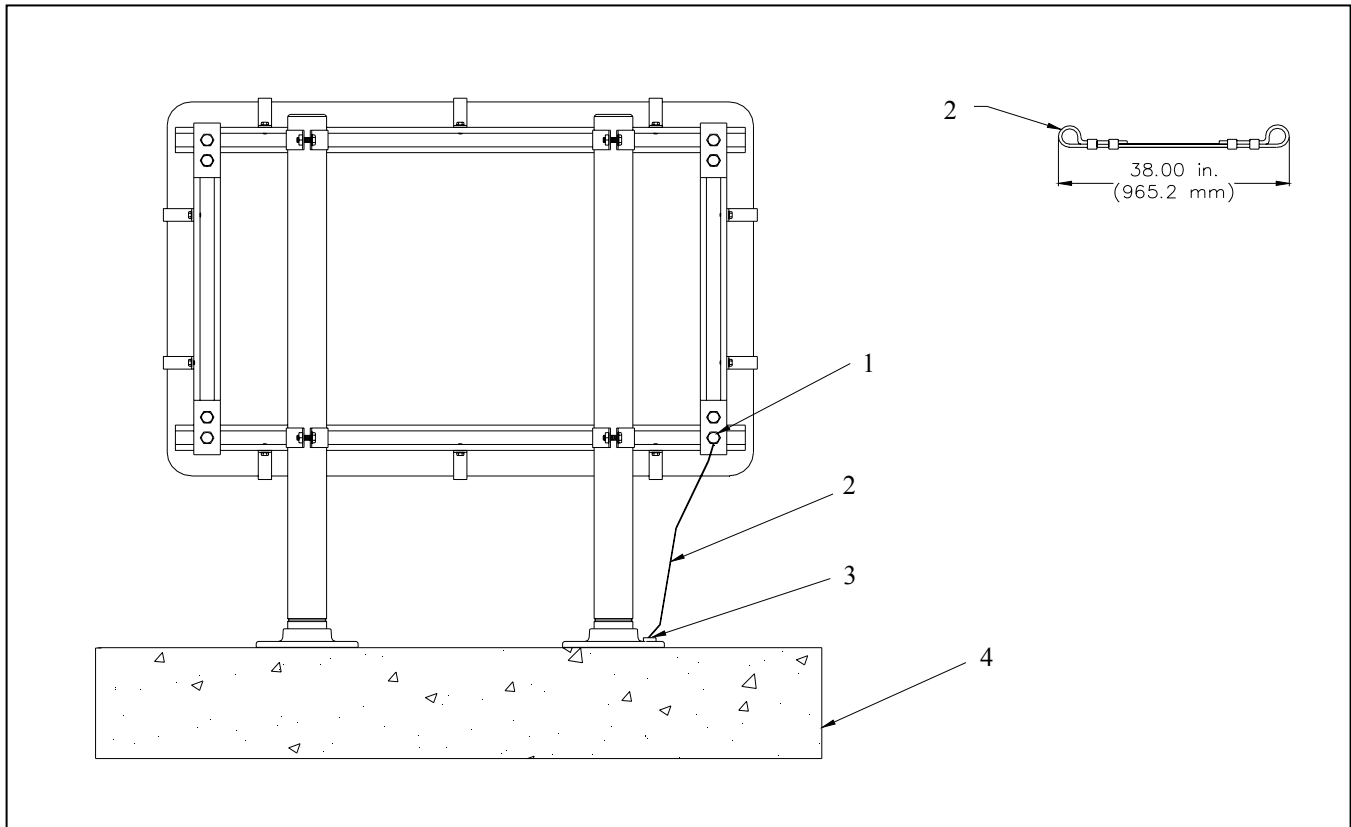
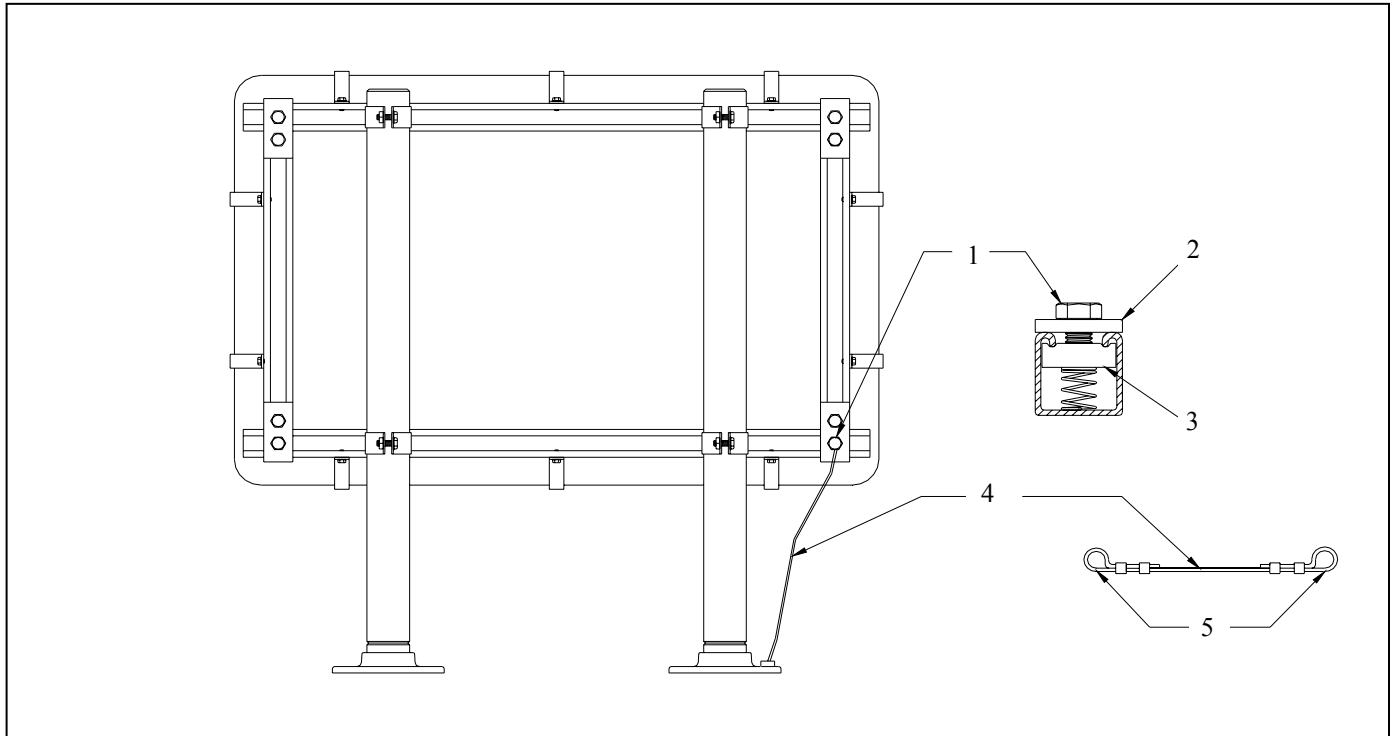

Figure 7. Optional Tether
Figure 8. Installing Optional Tether
See Figure 7. Install one tether (2) per sign or as specified in the airport plans and specifications. Install the tether at either end of the taxiway sign.
**NOTE:** See Figure 8. The tether may be attached to the concrete pad by using either the mounting hardware used to fasten the floor flange to the pad or by using an independent anchor bolt or anchor stud. If an anchor is used, the anchor should be located at one end of the taxiway sign directly under the rail connector plate (2) found on the backside sign structure. The anchor should be a minimum of 1.5 inches long.
1. See Figure 7. Attach the tether (2) to the concrete pad (4) by performing the following procedure:
- a) Place a 1/2 in. flatwasher between the hex nut or under the head of the floor flange bolt (3).
- b) See Figure 8. Insert the floor flange bolt through one of the tether eyes (5). Finger tighten the bolt against the floor flange.
2. Attach the other end of the tether (4) to the sign by performing the following procedure:
- a) Remove the lower 1/2–13 hex head bolt (1) used to secure the rail connection plate (2). The clamp nut (3) remains in place behind the plate when you remove the bolt.
- b) Slide a 1/2 in. flatwasher over the end of the hex head bolt and then insert this bolt through the tether eye (5).